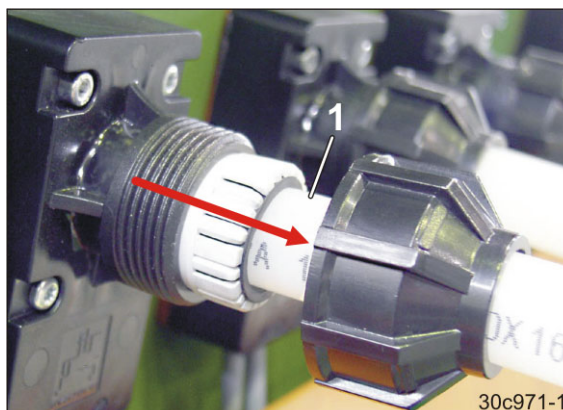

Fig. 7
1. Label and remove the seed tubes (Fig. 7/1).